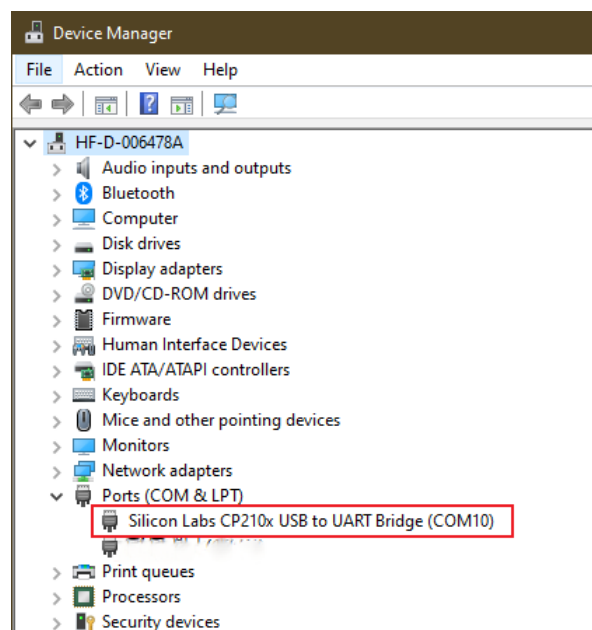

Figure 13: Device Manager
1. Before initiating the firmware upgrade, ensure that the module is connected to the PC and powered on normally. If it is properly connected and powered on, you can view the corresponding port in the device manager as shown in Figure 13: Device Manager.